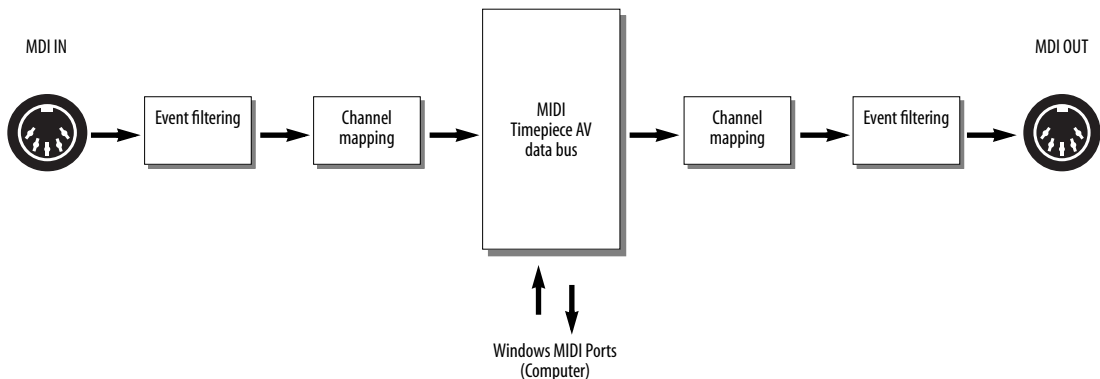
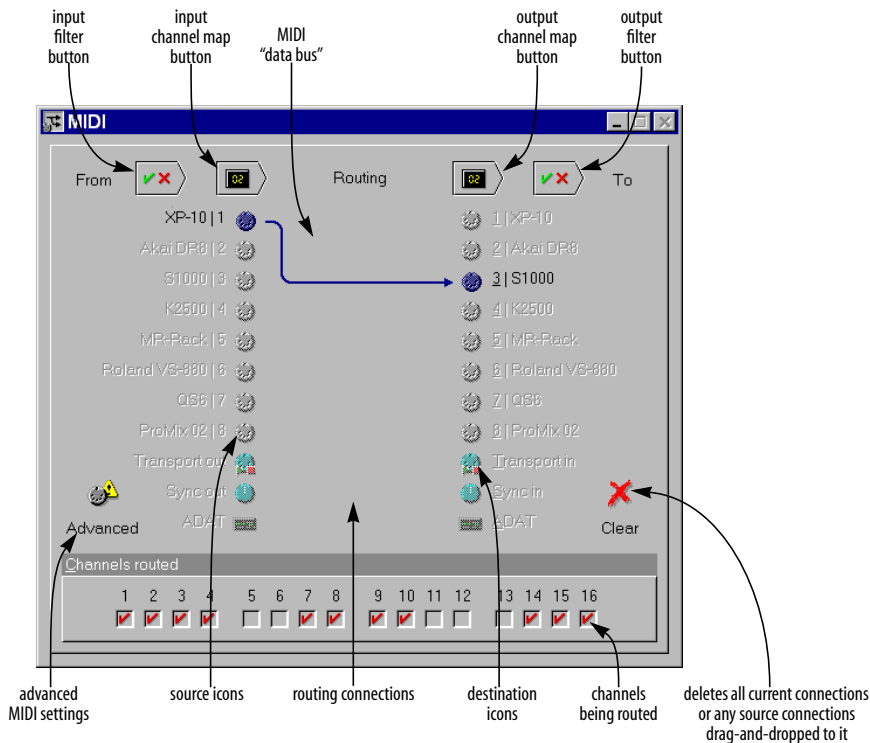

Figure 10-5: MIDI Timepiece AV internal MIDI data processing sequence.
Figure 10-7: The MIDI Routing window with a source and destination selected.
The processing sequence described Figure 10-5 on page 86 is conveniently represented in the layout of the MIDI Routing window. The MIDI data flow proceeds from left to right. MIDI inputs, or *sources*, are represented on the left by the input port, clock (for MIDI Time Code converted from SMPTE) and ADAT icons. MIDI outputs, or *destinations*, are represented on the right by the output port icons. Port-to-port routings are represented by extended arrows going from sources to destinations. The processing options (filtering and channelizing) are represented by the four buttons along the top of the window. You can clearly see the logical processing order with this layout as shown in Figure 10-7 on page 87.
Routing is as simple as dragging a source icon with the mouse and dropping it on a destination icon. When making port-to-port connections, the Console will route all 16 MIDI channels from the source to the destination (as is the case in Figure 10-7 on page 87). You can freely edit the routed channels later by altering the Channels routed check boxes while the source and destination are selected (see “Selecting individual sources and destinations” on page 89).
- 2 With the port selected, click on the channel map button above the selected port as shown in Figure 10-7 on page 87.